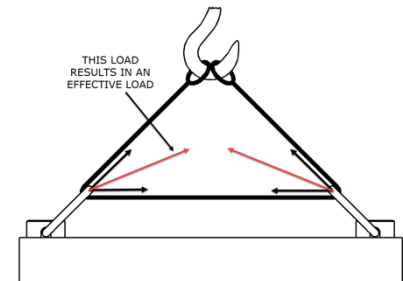

Fig 6
- NEVER reeve slings from one lifting ring to another (Fig.6)